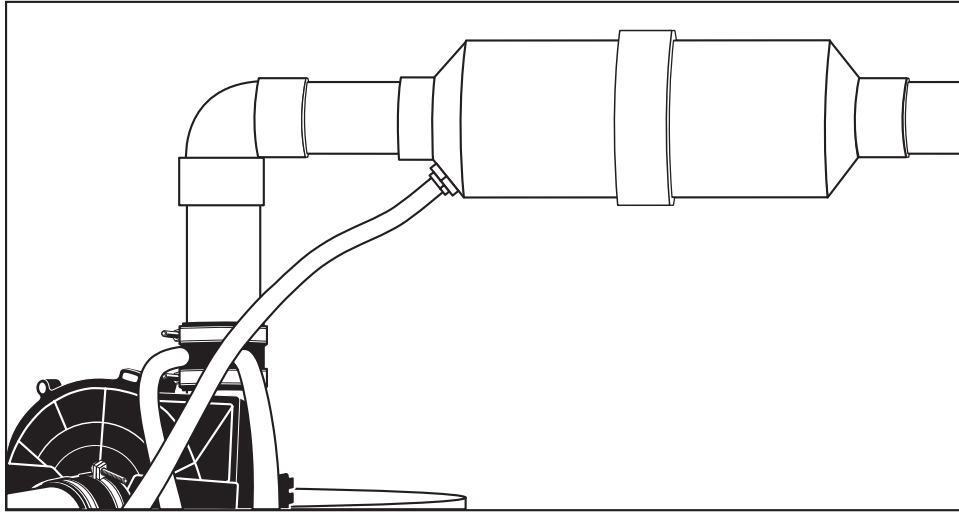

FIGURE 5.
11. Locate the existing flexible hoses. Make three hoses out of them if a Vent Attenuation Assembly is currently installed. Two hoses should be cut to 30 inches long, and another hose should be cut to 50 inches (for Vent Attenuation Assembly). Connect one end of the two 30 inch hoses to each of the two ports on the rubber adaptor located at the outlet of the blower. Connect one end of the 50 inch hose to the drain port of the Vent Attenuation Assembly. Refer to Figure 5.